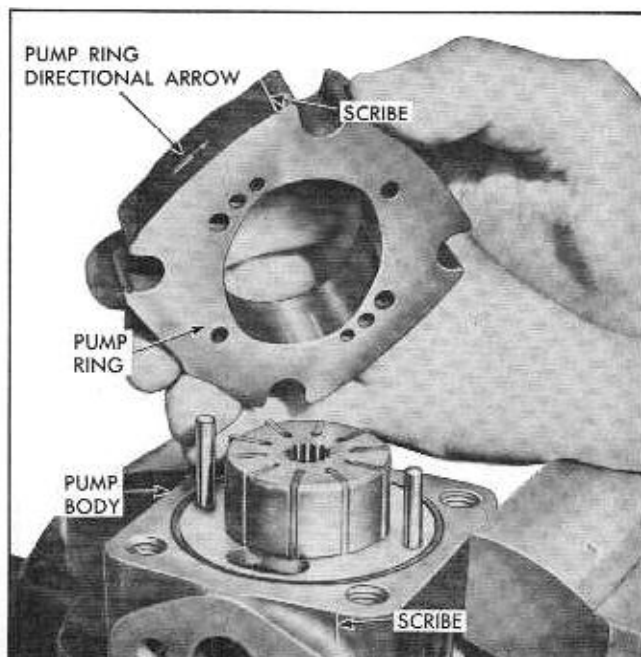

Fig. 9-75 Removing Pump Ring from Pump Body
9. Mark position of pump ring in relation to pump body, and remove ring from dowel pins (Fig. 9-75). **NOTE:** Arrows on outer edge of pump ring point in direction of pump rotation.